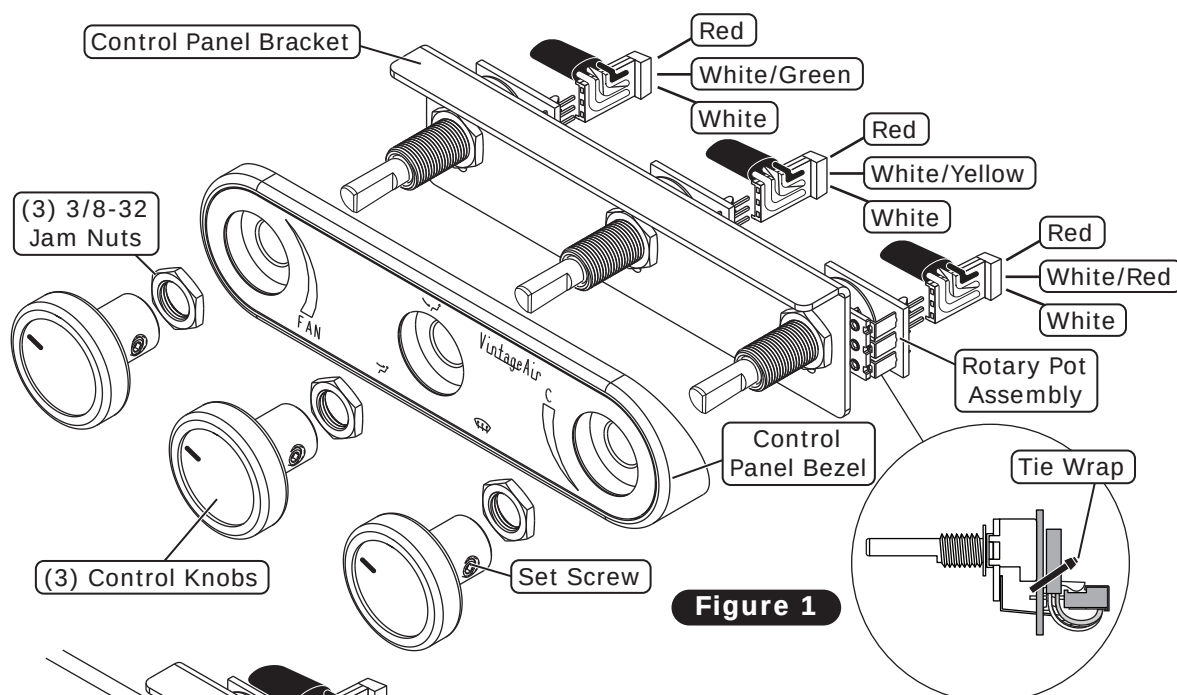

Figure 1
1. Remove the (3) control knobs by loosening the set screws (See Figure 1, below).
2. Remove the (3) 3/8-32 jam nuts (See Figure 1, below).
3. Remove the control panel bezel (See Figure 1, below).
4. Install the wiring harness to the rotary pot assemblies as shown in Figure 1, below.